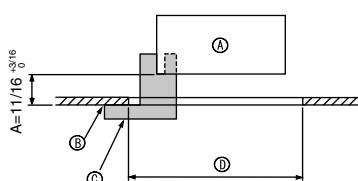

Fig. 5-2
①	Grille	1	950 x 950 (mm), 37-3/8 x 37-3/8 inch
②	Screw with captive washer	4	M5 x 0.8 x 25
③	Gauge	1	(Divided into four parts)
④	Fastener	3
⑤	Screw	4	4 x 8
⑥	Screw	1	4 x 12
5.2. Preparing to attach the grille (Fig. 5-2)
- With the gauge ③ supplied with this kit, adjust and check the positioning of the unit relative to the ceiling. If the unit is not properly positioned relative to the ceiling, it may allow air leaks or cause condensation to collect.